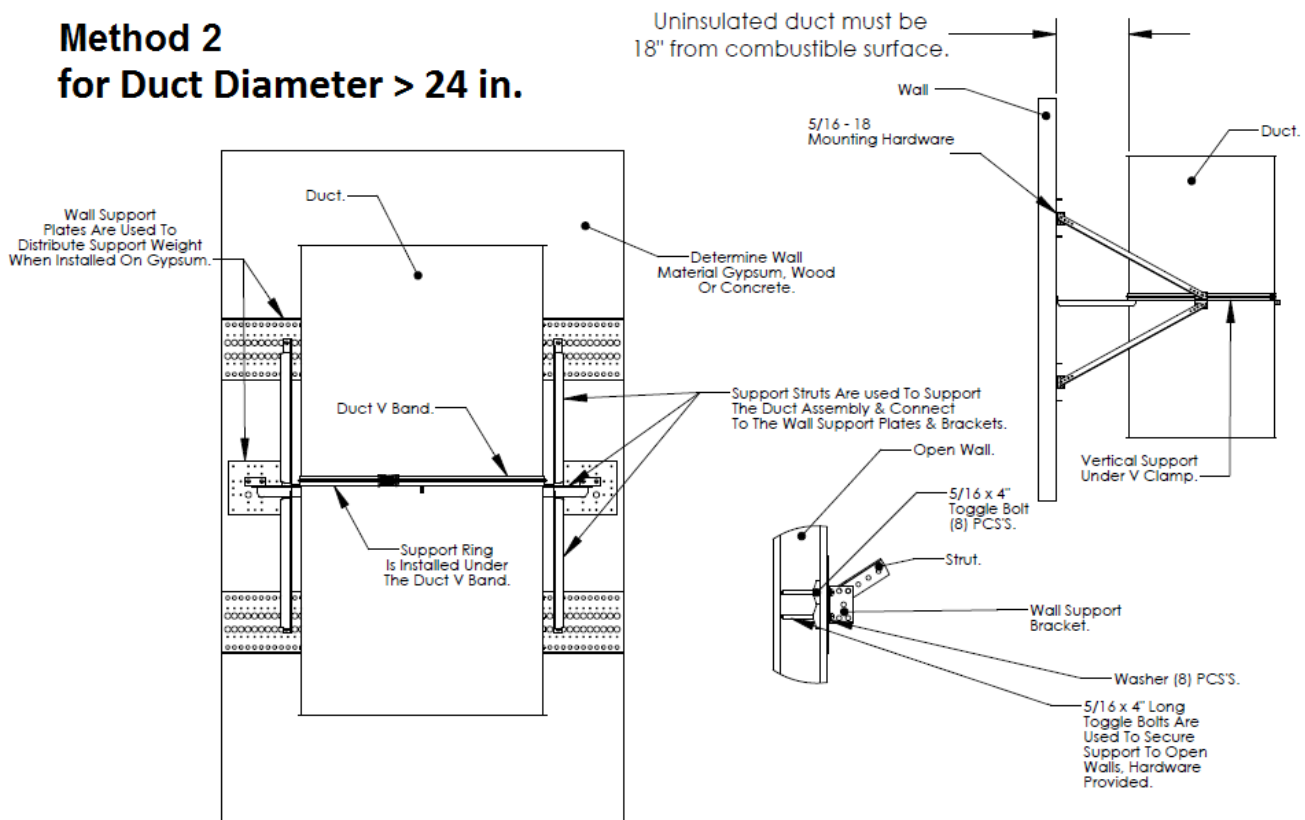

Figure 4. Vertical Wall Supports
B. **VERTICAL SUPPORTS (Wall)** – Refer to Figure 4 for depiction of Method 1 and Method 2 installations. Use the vertical support assemblies supplied by the duct manufacturer and consisting of the following 12 GA steel components:
Where the pre-fabricated grease duct (Item 1) is installed vertically along a wall as depicted in Figure 4 below, provide supports spaced as follows: